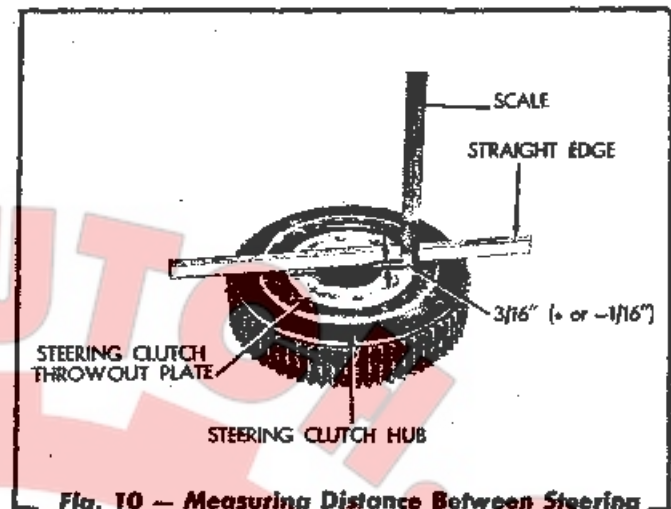

Fig. 10 - Measuring Distance Between Steering Clutch Hub and Throwout Plate
8. Using a suitable straight edge and scale, measure the distance between the machined end of the steering clutch hub and the machined face of the throwout plate as shown in Fig. 10. The throwout plate must extend IN from the face of the hub 3/16" (+ or - 1/16"). If the distance is less than 1/8", add steel discs as required to obtain